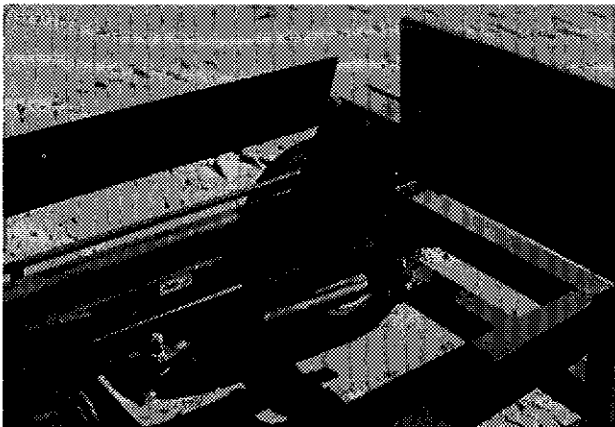

Figure 37
- 2) If the SilaTube has a tendency to always turn on the same side, you may adjust the direction of the wheels with the help of turnbuckles. (Fig. 37)